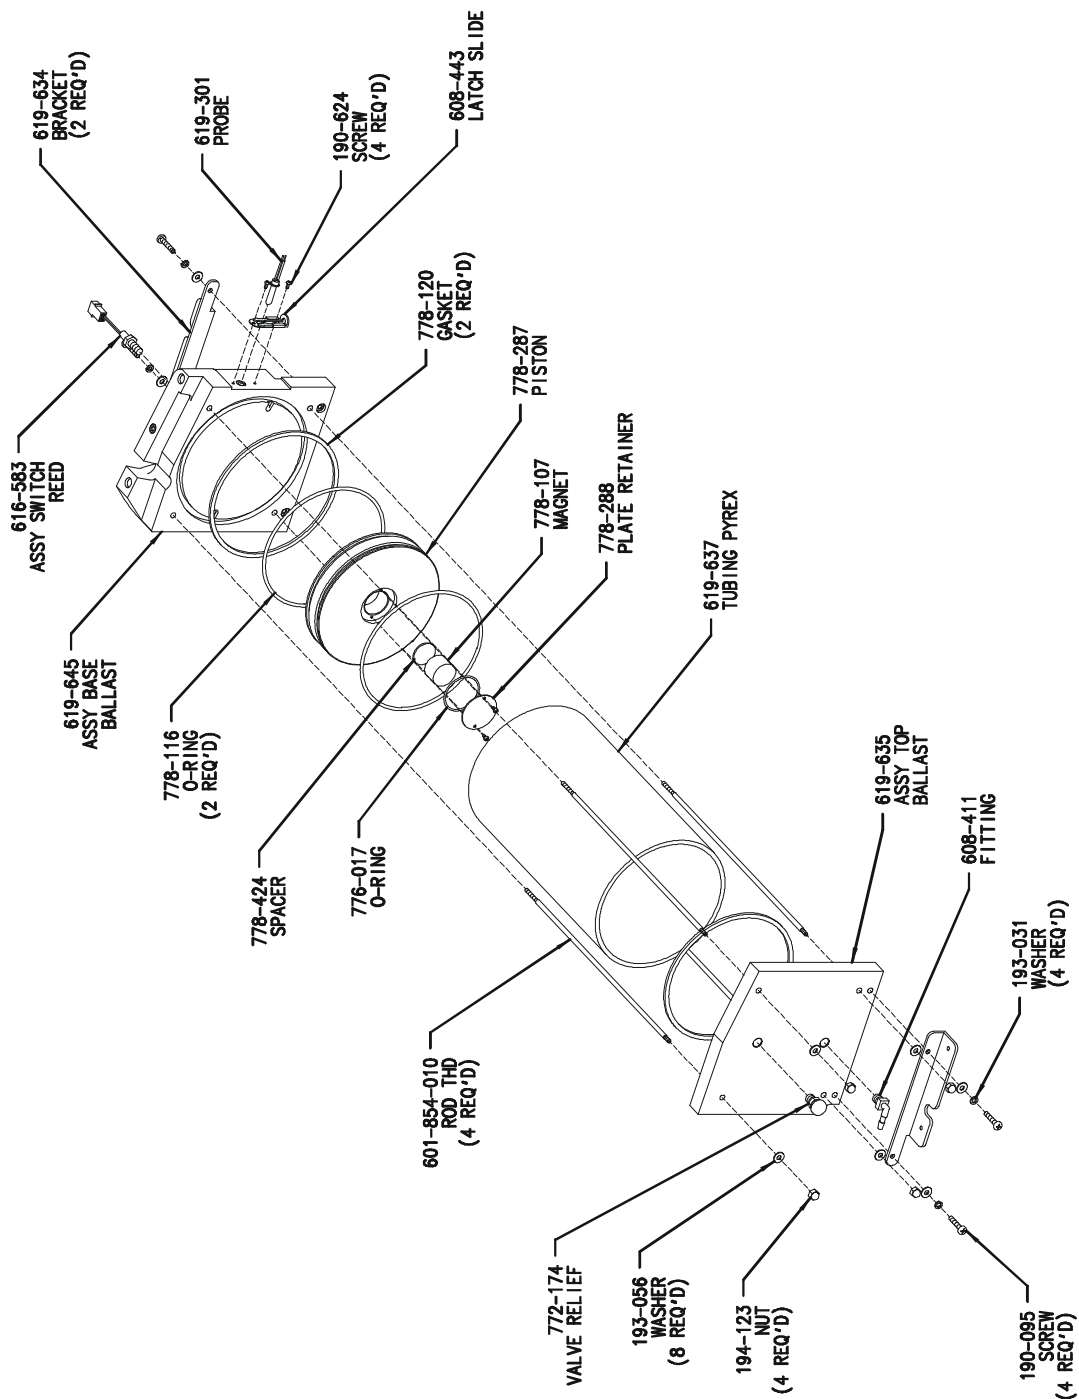

Figure 6-4
1. Remove the four nuts and four rods. Refer to Figure 6-4 on page 6-15.